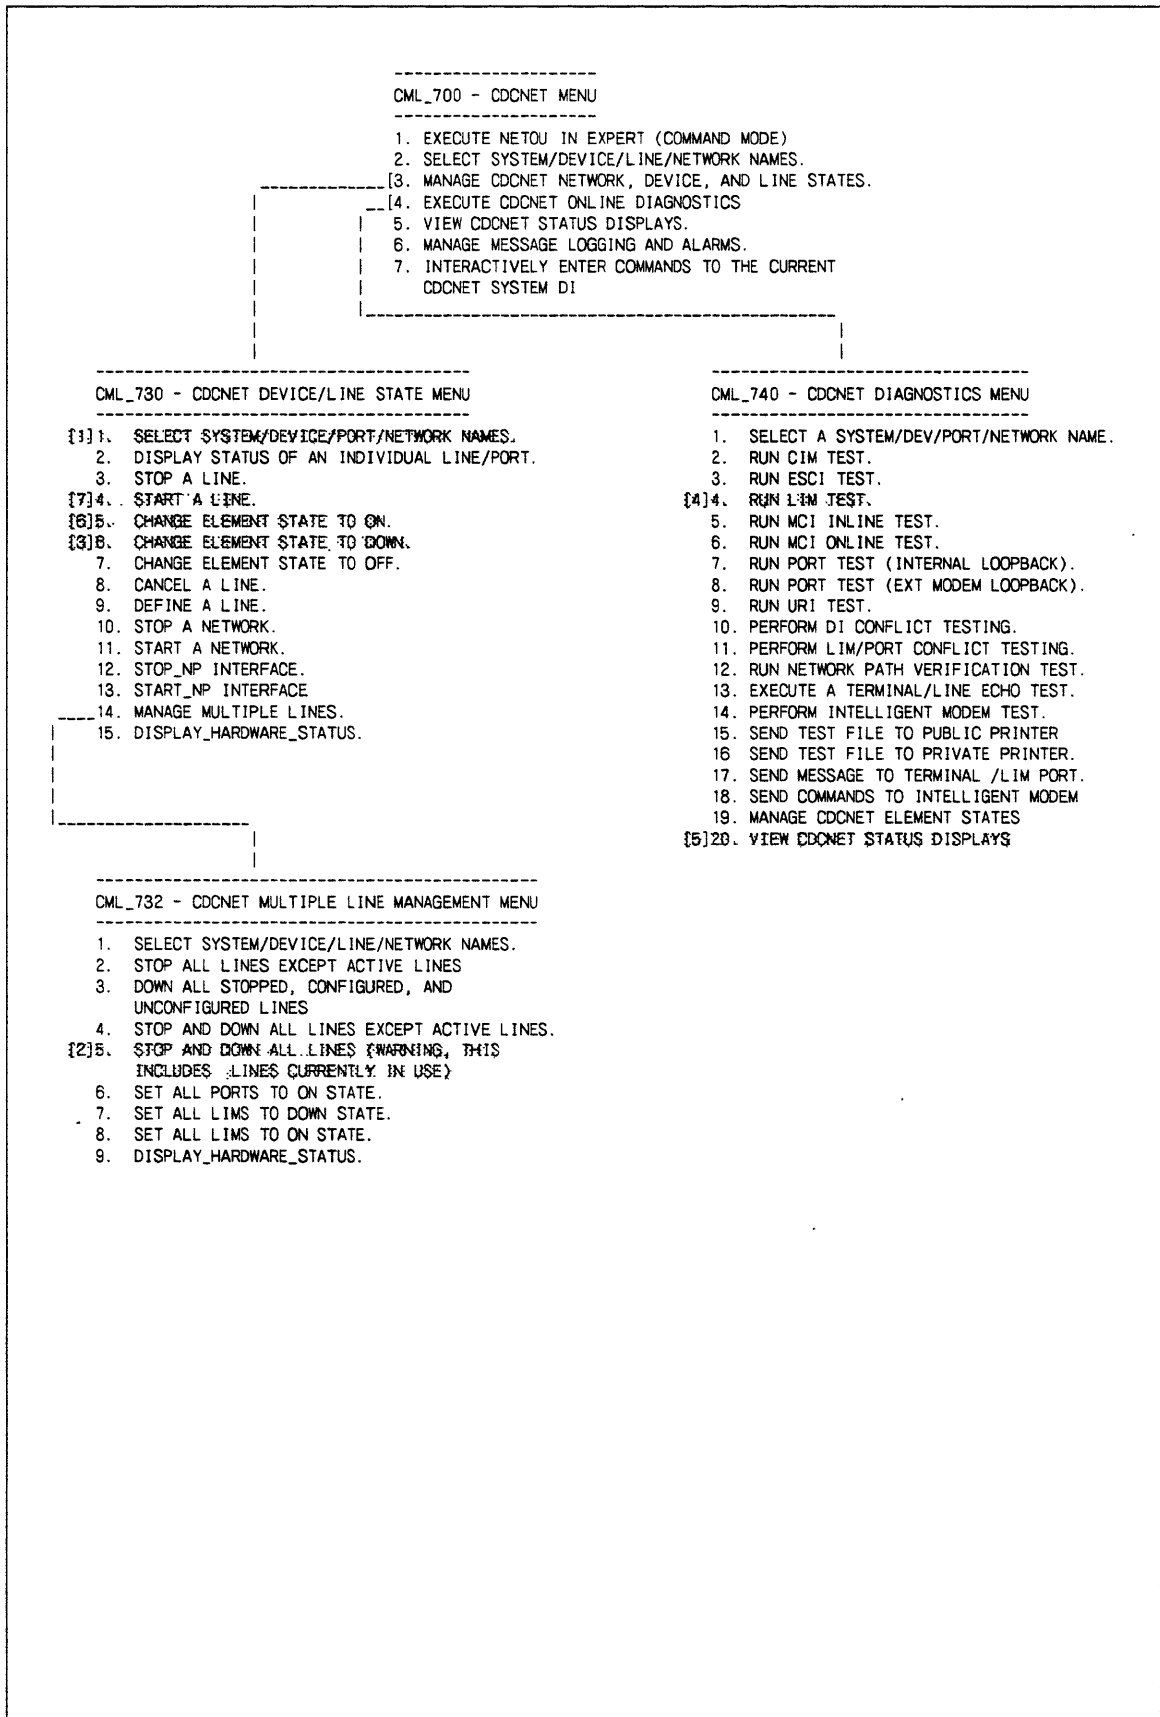

Figure 6-6. CML/VE Menus for LIM Online Test
The following shows the CML/VE menu choices necessary to run the LIM online test. Each menu choice is shown on figure 6-6 and described below. The purpose of this topic is to serve as a quick reference for the most frequently used menu selections. See chapter 4 for a complete description of CML/VE. Familiarize yourself with the LIM test notes and procedure given earlier in this topic before running the test.
1. Numbers in this column correspond to the bracketed numbers (for example, [1]) on figure 6-6.